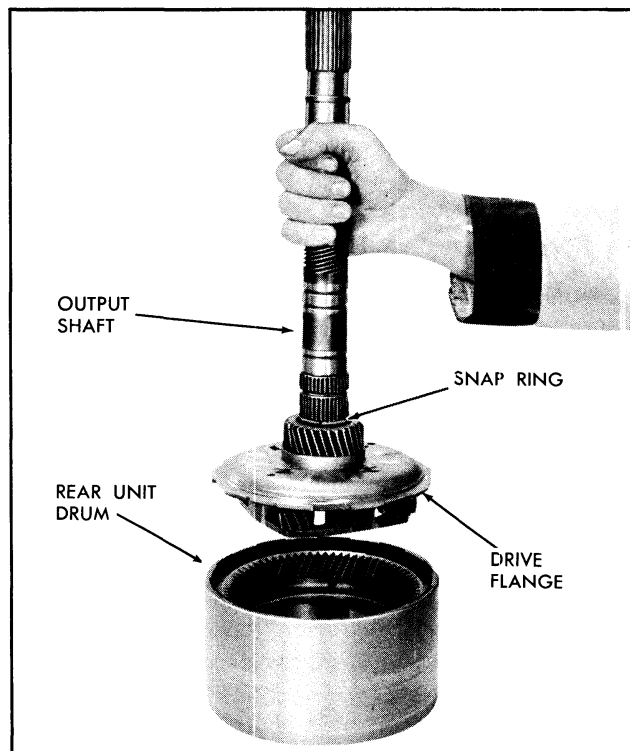

Fig. 7D-74 Lifting Output Shaft and Drive Flange from Rear Unit Drum
20. Remove spiral snap ring from rear unit sprag outer race, using small needle nose pliers or small screwdriver to start if necessary (Fig. 7D-75).